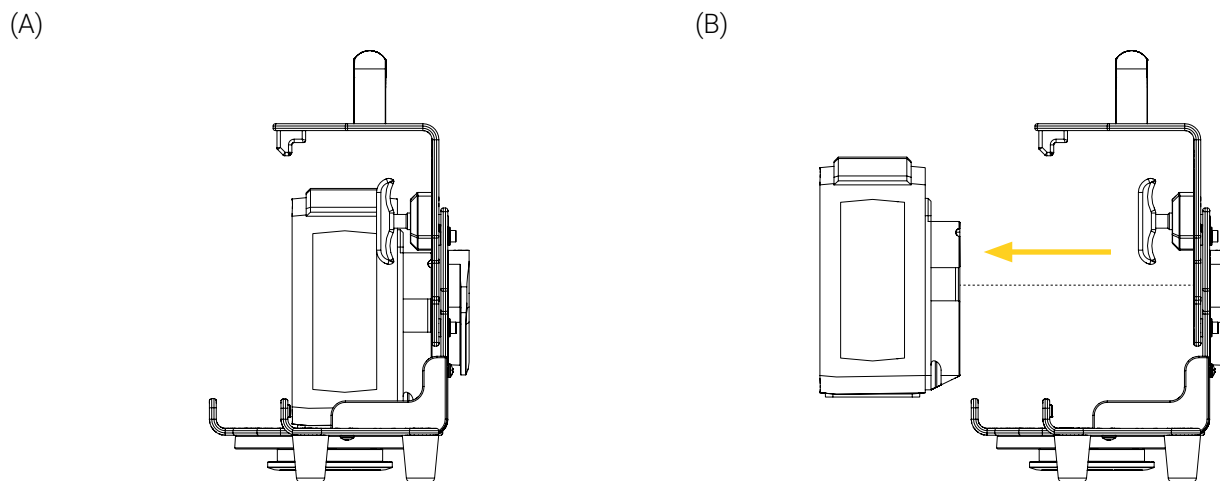

Figure 13: Removing the medical device from the BP75-FL MCD
2. Remove the medical device horizontally (Figure 13).